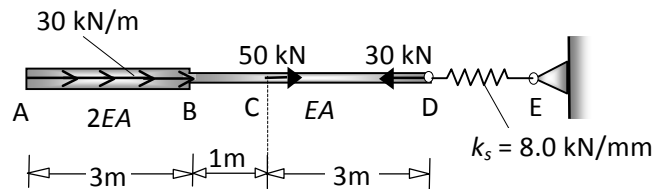

Fig. 1
1. Analyse the non-prismatic axially loaded structural system, ABCD, shown in Fig. 1, with an elastic support at D, by the conventional Stiffness Method. Generate the structure stiffness matrix and equivalent joint loads using both,